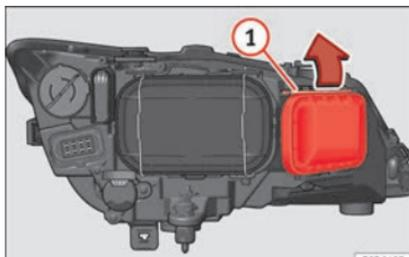

Fig. 210 Main beam headlight bulb.
- Move the loop » Fig. 210 ① in the direction of the arrow and remove the cover.